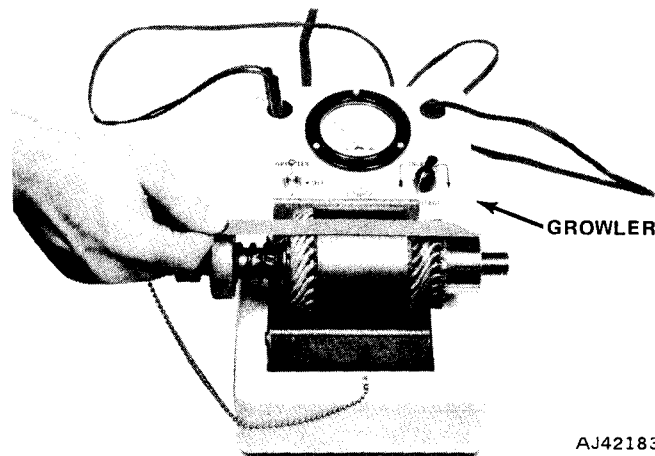

Fig. 3-47 Armature Short Test
- (1) Place armature in growler jaws.
- (2) Turn power switch to growler position.
- (3) Using steel blade, hold blade parallel with and touching armature core. Slowly rotate armature one or more revolutions in growler jaws. If steel blade vibrates on any position of core, area is shorted and armature must be replaced (fig. 3-47).